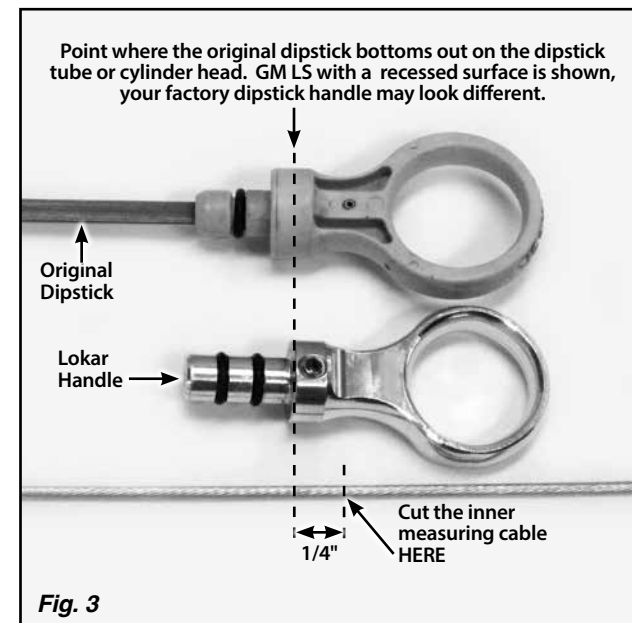

Fig. 3
Step 5: Place a mark on the inner measuring cable that aligns with the point on your existing dipstick handle that bottoms out on the dipstick tube or cylinder head. This surface is recessed into the handle on many dipsticks. Fig. 3